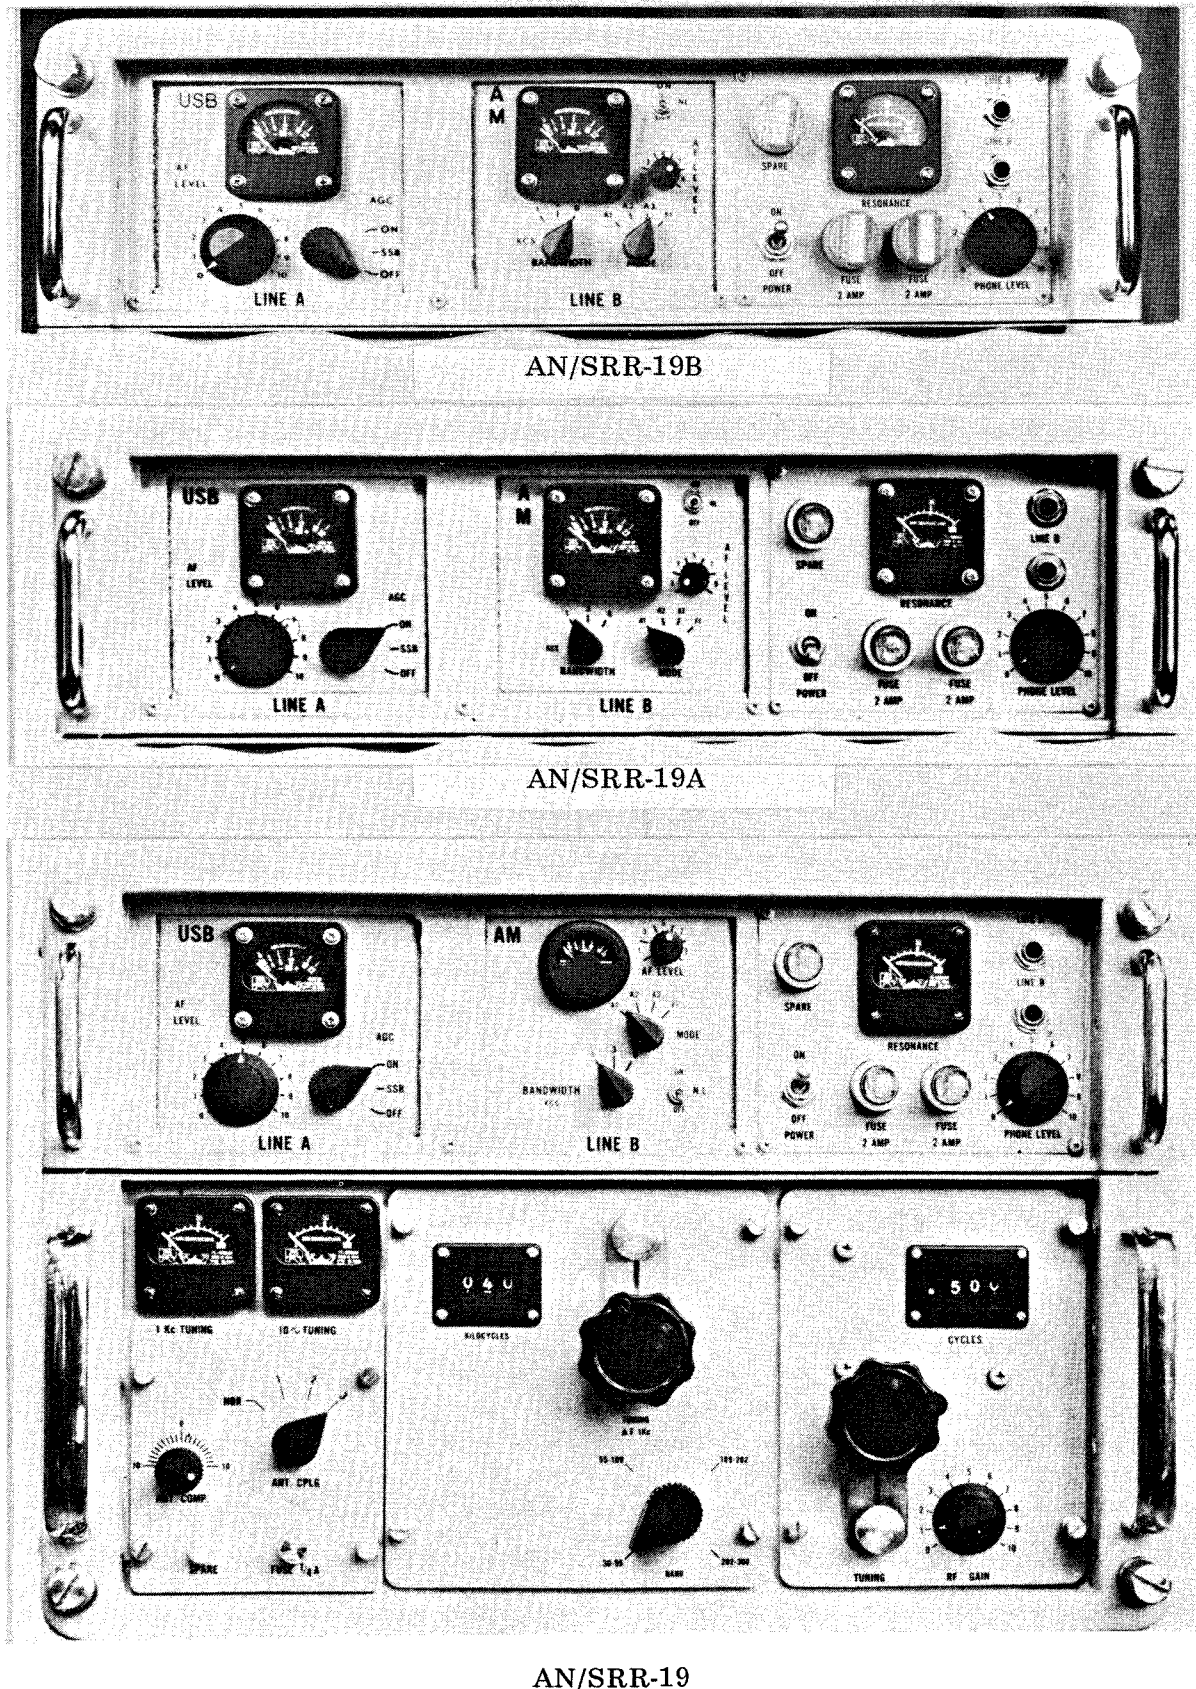
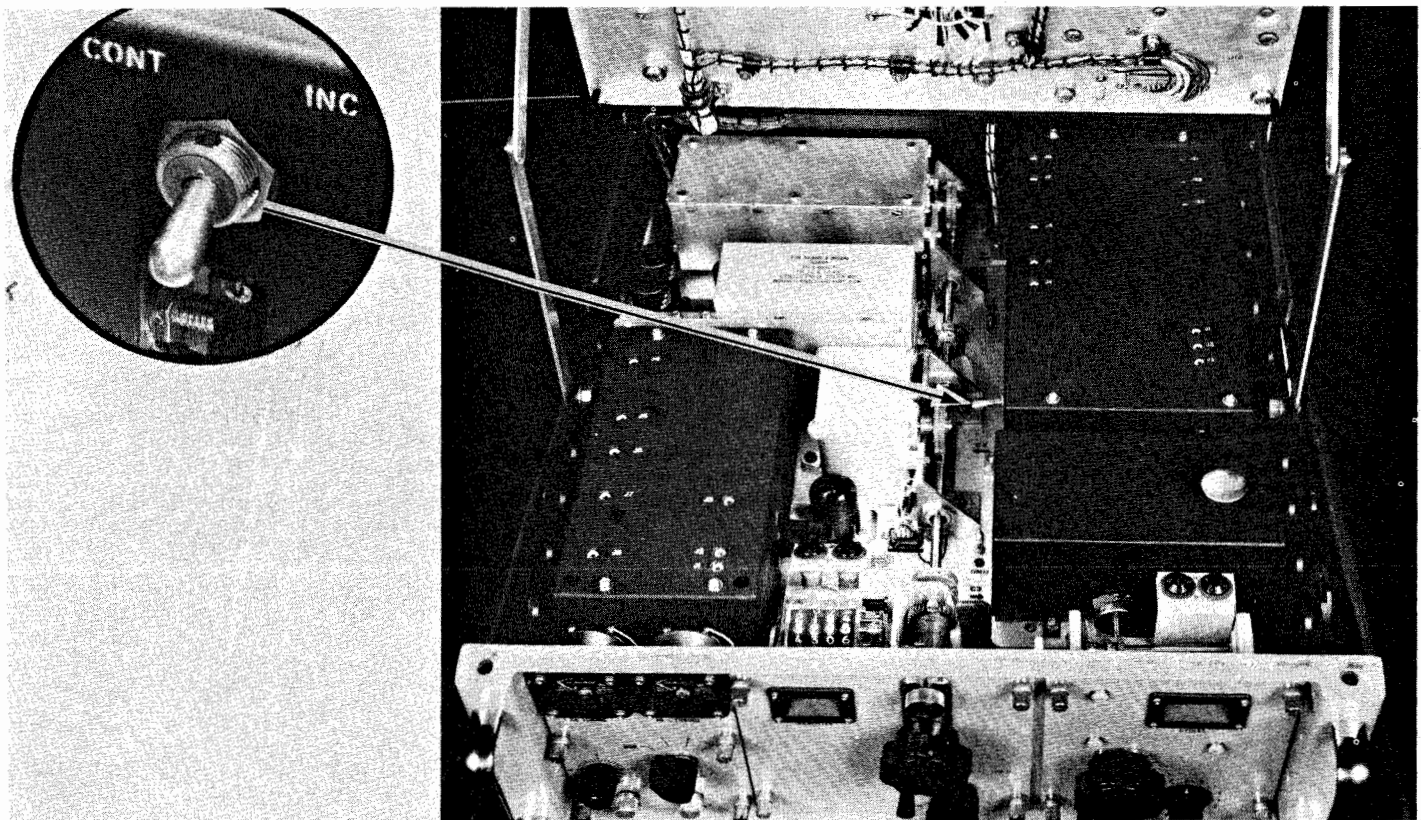

Figure 3-1. Radio Receiving Sets AN/SRR-19, AN/SRR-19A and AN/SRR-19B, Front View
Fig 3-2 Tuning Cont/Inc Switch Location
a. DESCRIPTION OF CONTROLS. All controls for receiver operation are located on the front panel (figure 3-1) except the TUNING CONT/INC switch, located on the 2nd injector (A) assembly A1A12 on the lower deck (see figure 3-2). Controls which are accessible when the receiver drawer is extended but not for use by the operator, are listed in paragraph 3-3e. Table 3-1 contains a description of the function of all operating controls, jacks, and indicating devices.
2nd Injector (A) (A1A12) (See figure 3-2)
(1) ANTENNA COUPLING. In the event that the protective fuse blows, placing the ANT. CPLG switch in position 1, 2 or 3 will renew the signal path but will also reduce the strength of the receiver signal.
(2) INCREMENTAL TUNING. Inability to tune the receiver incrementally in 10 Hz steps (using the secondary TUNING control) can sometimes be corrected by placing the TUNING CONT/INC switch (see figure 3-2) in the CONT position and tuning the receiver using the continuous method. The frequency stability of the receiver is slightly reduced using this method and a more frequent adjustment of the TUNING control may be required.
(3) AGC CIRCUITS. Failure of the receiver AGC circuits to control receiver gain will not prevent reception and the set will be operative, subject to a high degree of signal fading when receiving fluctuating signals.
(4) PRIMARY POWER. Interruption of the primary power source to the receiver can be remedied only by an alternate power source. Most shipboard power distribution systems have provisions for the use of an alternate or emergency power supply. The operator should be familiar with the ship's power distribution and should be able to shift quickly to an alternate supply in an emergency.